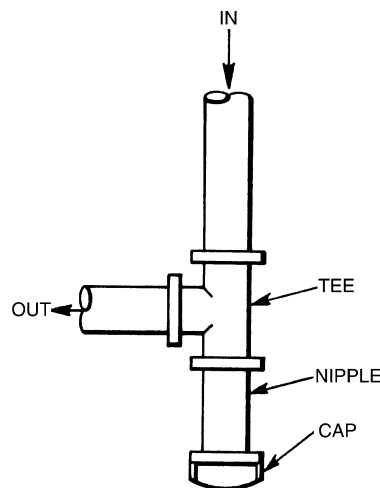

Fig. 11 — Sediment Trap
4. Install sediment trap in riser leading to heating section. This drip leg functions as a trap for dirt and condensate. Install trap where condensate cannot freeze. Install this sediment trap by connecting a piping tee to riser leading to heating section, so that straight-through section of tee is vertical (see Fig. 11). Then, connect capped nipple into lower end of tee. Extend capped nipple below level of gas controls.